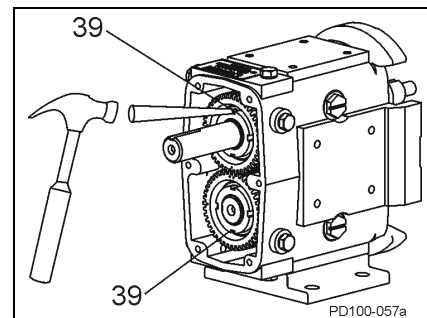

**Figure 37 - Remove Gear Case Cover**
- Remove oil drain plug (Figure 37, item 24D); drain oil.
- Remove cap screws from gear case (item 33A).
- Pull cover (item 4) off shaft extension. If cover sticks, use soft hammer to loosen.
- Remove Gore-Tex® sealing tape (item 25) from gear case and cover.
- Remove oil seal (item 12) from cover using arbor press. Discard used oil seal.